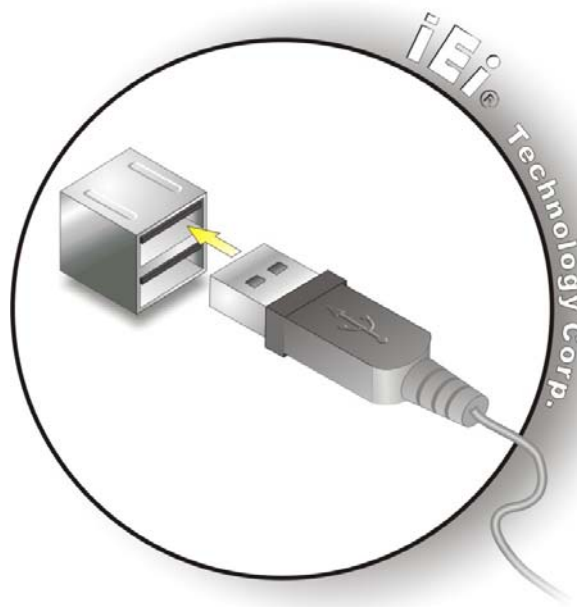

Figure 4-22: USB Device Connection
Step 2: Align the connectors. Align the USB device connector with one of the connectors on the bottom panel. See **Figure 4-22**.